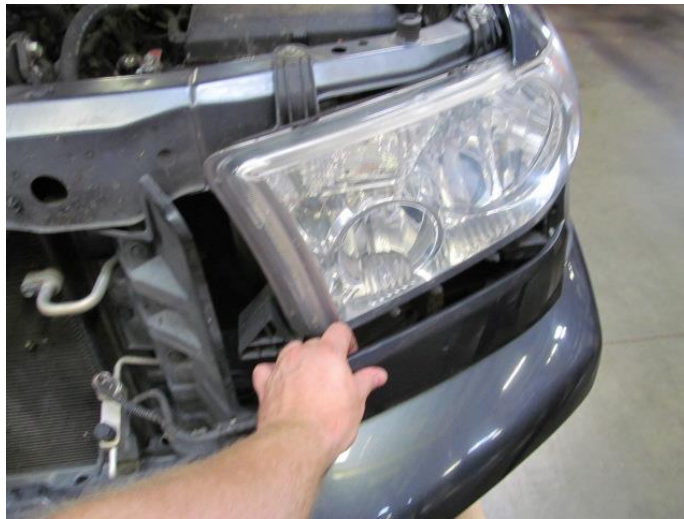

FIGURE 23
6. CAREFULLY REINSTALL COVER REMOVED IN REMOVAL OF OEM BUMPER STEP 3.SEE FIGURE 23